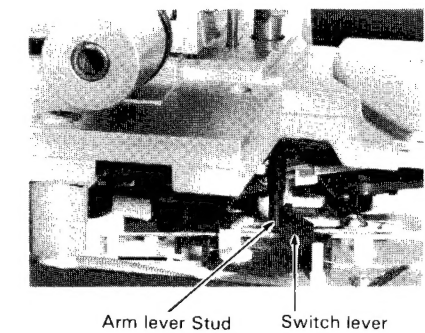

Fig. 17
1. Push the switch lever by top of the finger as shown in Fig. 16, then mount the pickup base ass'y. So that, the stud of the arm lever is located as shown in Fig. 17.